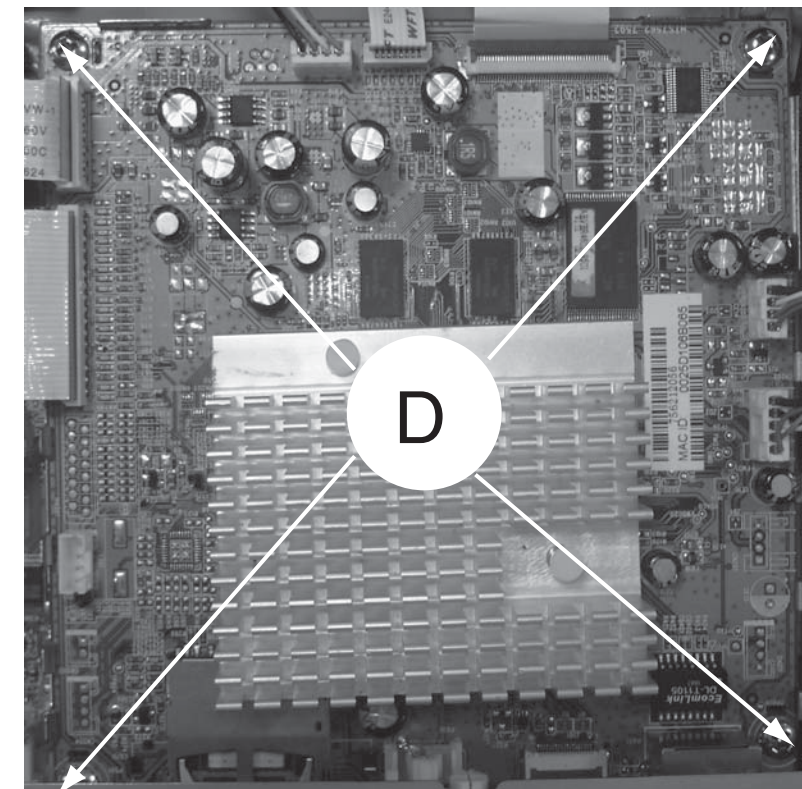

Figure 7
- 1) Loosen 4 screws "D" on the top of BD Board as shown in figure 7.